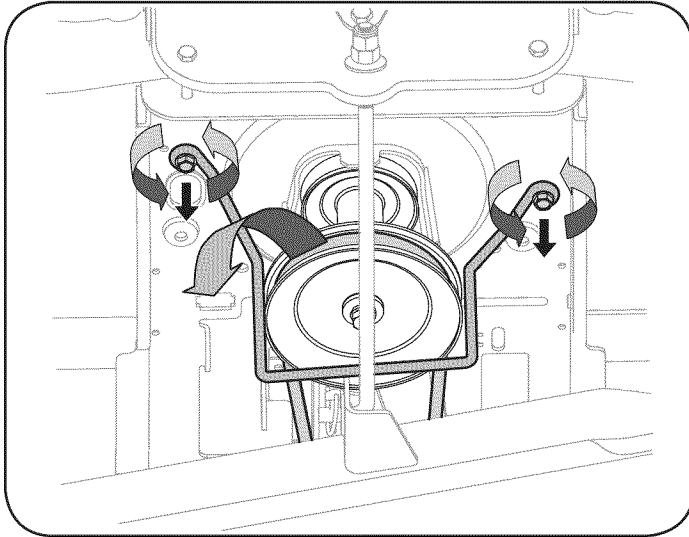

Figure 10
3. Locate the PTO clutch under the front of your tractor. See Figure 10.
4. Remove the belt guard and belt from the PTO pulley as follows. Refer to Figure 10:
12. Replace the PTO pulley belt guard. See Figure 10.